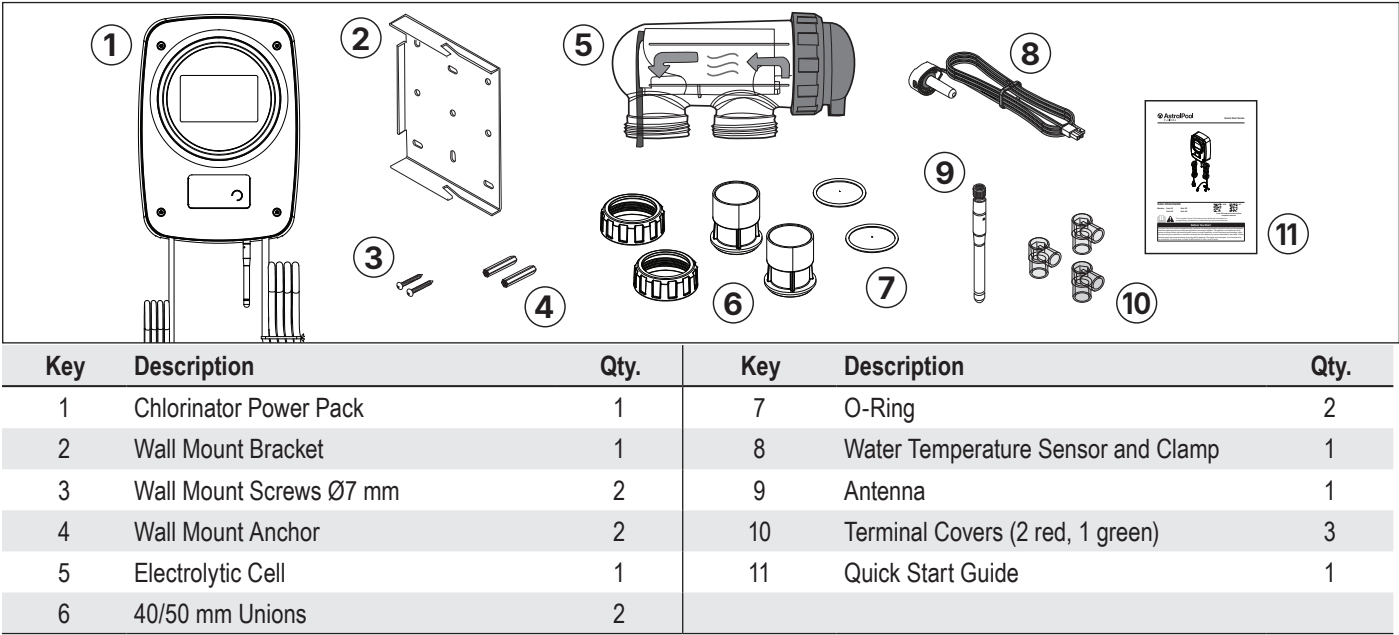
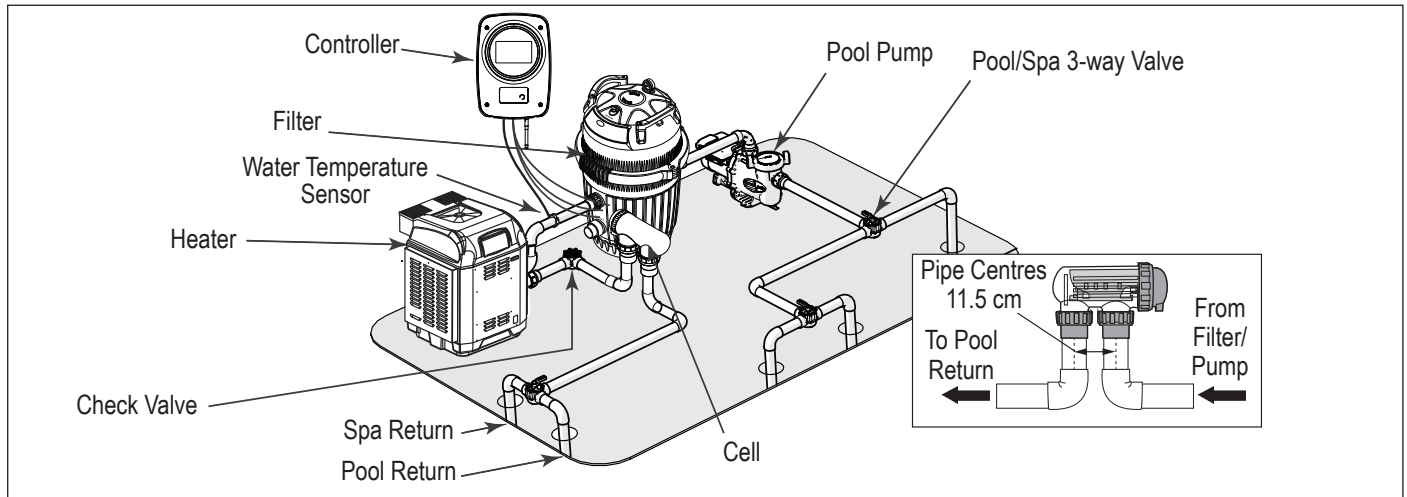

Figure 1. Solo System Components
Figure 3. Typical Installation Diagram
The cell must be plumbed in a position that is accessible for maintenance and within 1.5 m of the controller. The cell should be the last piece of equipment in the circulation system. The cell must be installed horizontally, level and with correct flow orientation. See *Figure 3*.
2. Plumb the cell inlet and outlet on vertical lengths of PVC pipe. The cell inlet and outlet ports are 11.5 cm apart, see *Figure 3* inset. The inlet of the cell is on the side closest to the electrical lead, see *Figure 1*.
3. Put the lock nuts onto the inlet and outlet pipes in the correct orientation. See *Figure 3*.
- The cell must be the last piece of equipment on the return line, See *Figure 3*.
- Ensure that the sensor is installed after the filter pump and before any heating device (if there is one installed). See *Figure 3*.